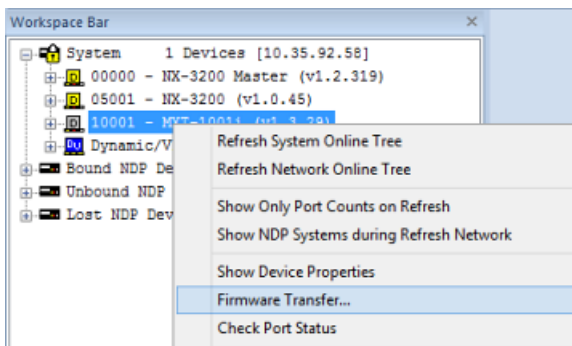

FIG. 134 NetLinX Studio Online context menu (Firmware Transfer selected)
3. Right-Click on the G5 panel, and select **Firmware Transfer** from the context menu (FIG. 134):